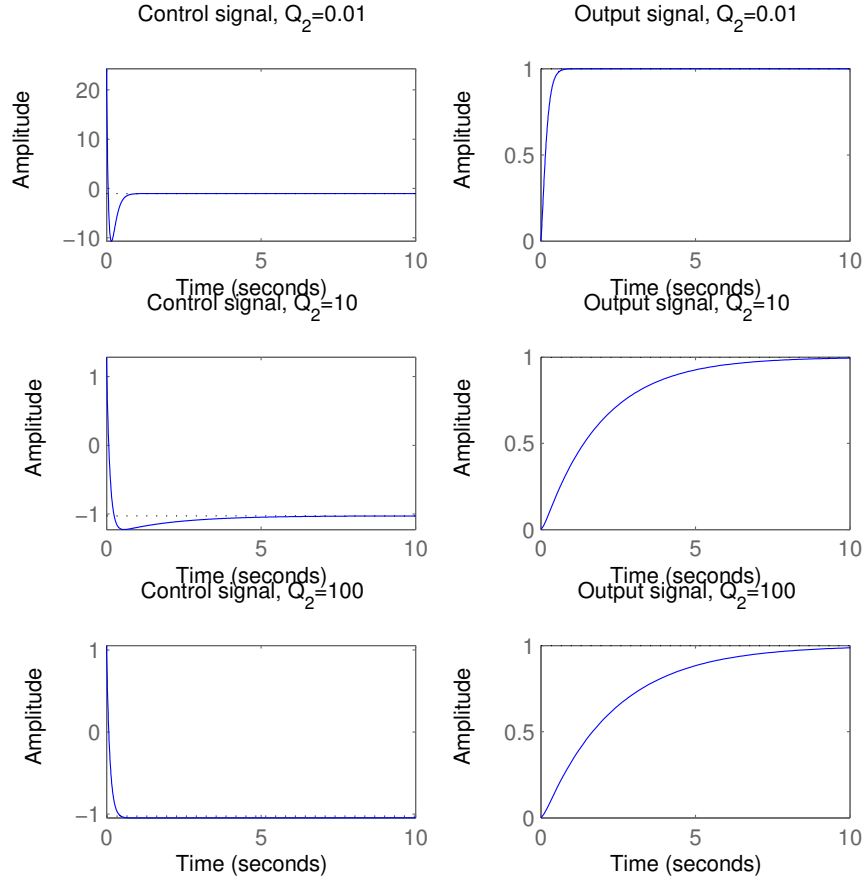

Figure 8.4 Step responses for different weight on control signal.
b. See Figure 8.4 for step responses, and Matlab code below.